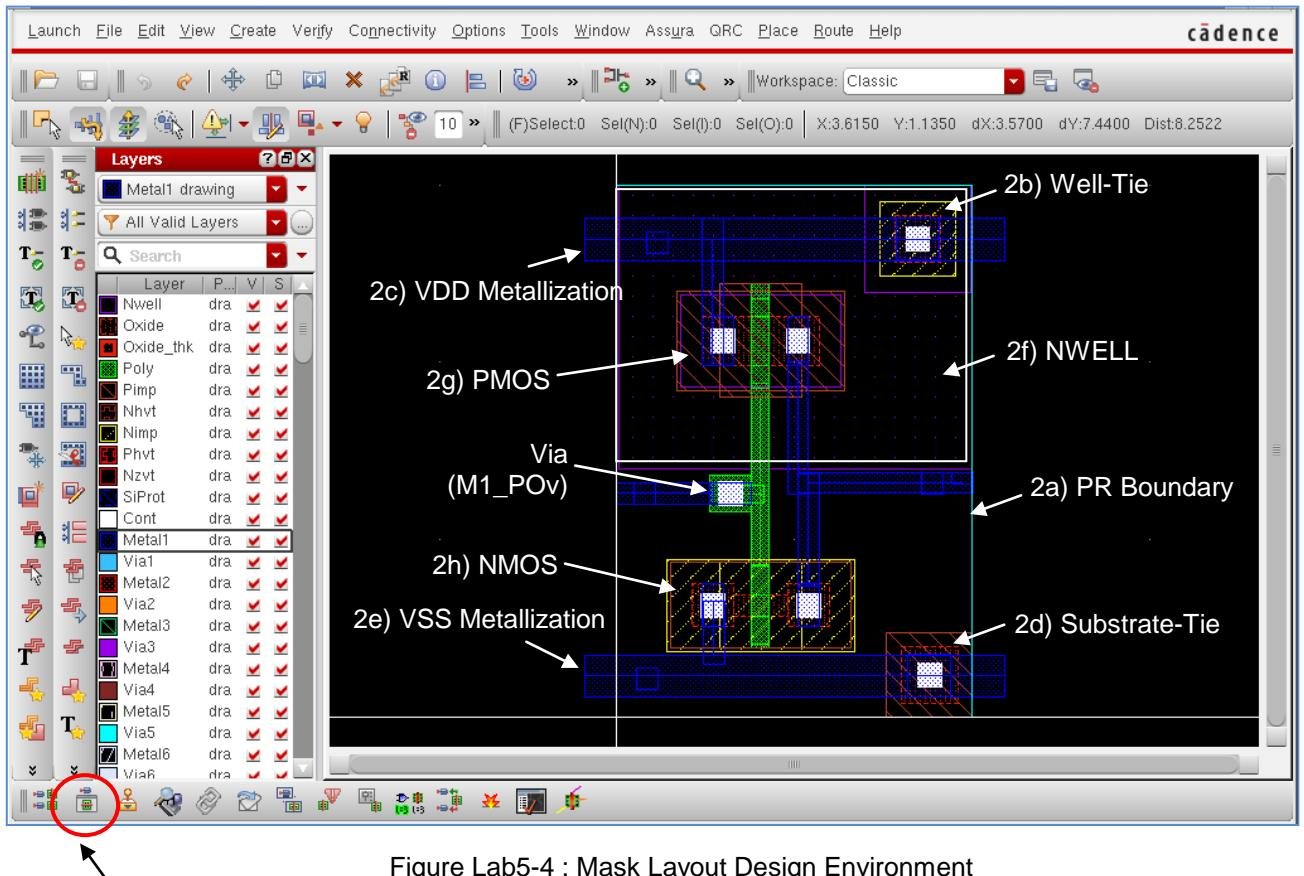

Figure Lab5-4 : Mask Layout Design Environment
## 2. Create Layout (Figure Lab5-4)
- Click on the **Generate Selected From Source** icon (circled in Figure Lab5-4)